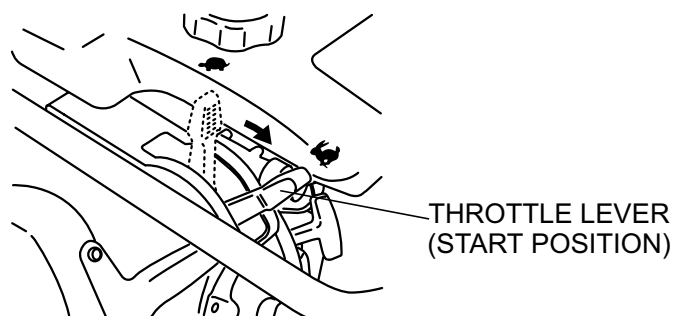

Figure 9. Throttle Lever (Start Position)
1. To start the rammer tamping action, move the throttle lever (Figure 9) **quickly** from **IDLE** to the **START** (🔌) position. **DO NOT** move the throttle lever slowly as this may cause damage to the clutch or spring.